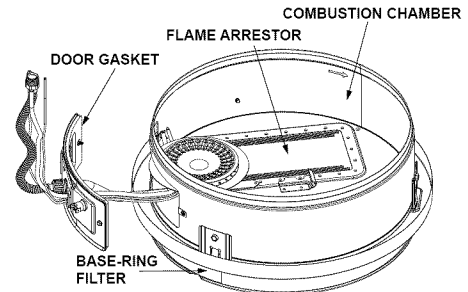

**FIGURE 38.**
- Reinstall the manifold component block in the manifold door (Figure 38).
7. Connect the white and red wires to the gas control valve/thermostat as shown in Figure 33. Also, ensure that the red thermal switch wires are connected to the thermal switch on the manifold door (Figure 38).